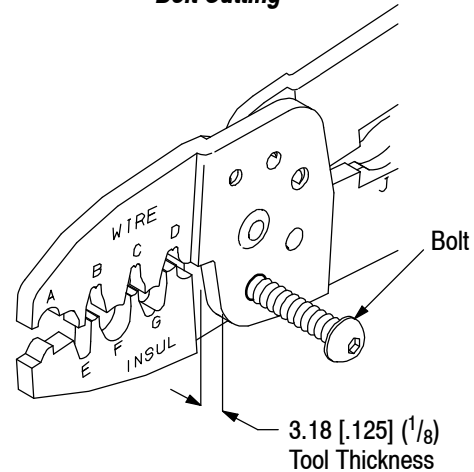

Figure 3
1. Thread the bolt into the side of the tool marked “INSERT SCREW.” To cut the bolt to the required dimension, allow 3.18 [.125] ( $\frac{1}{8}$ ) for tool thickness. Refer to Figure 3.